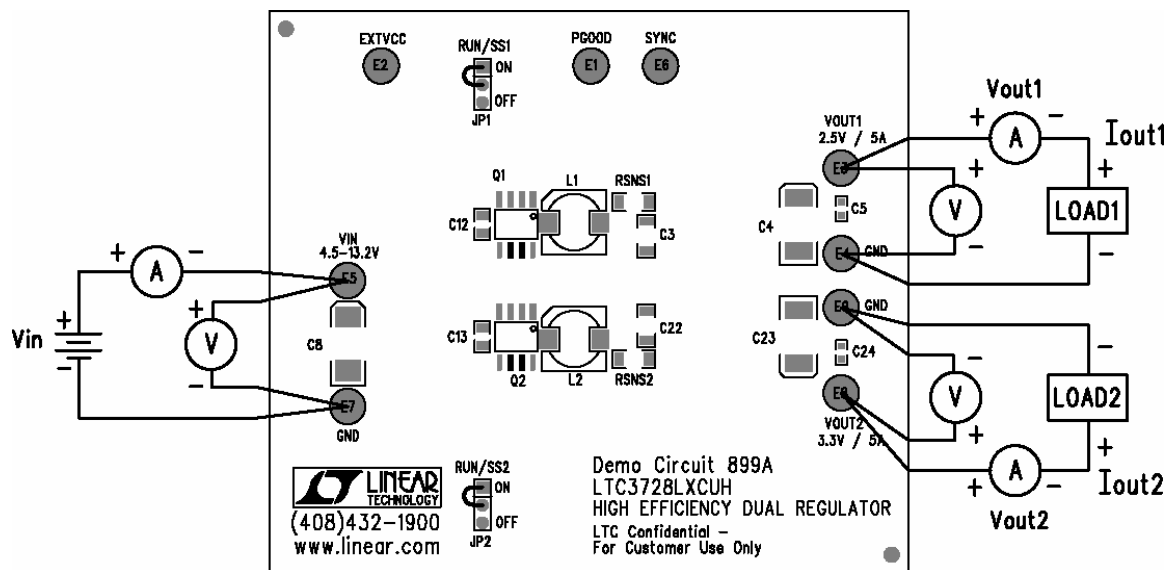

Figure 1. Proper Measurement Equipment Setup
Demonstration circuit 899 is easy to set up to evaluate the performance of the LTC3728LXCUH. Refer to Figure 1 for proper measurement equipment setup and follow the procedure below:
1. With power off, connect the input power supply to VIN and GND. Connect the load between VOUT1, VOUT2 and GND. Preset the load current at 0A (minimum). Refer to Figure 1 for correct test set up. The RUN/SS1 and RUN/SS2 jumpers should be at "on" position.